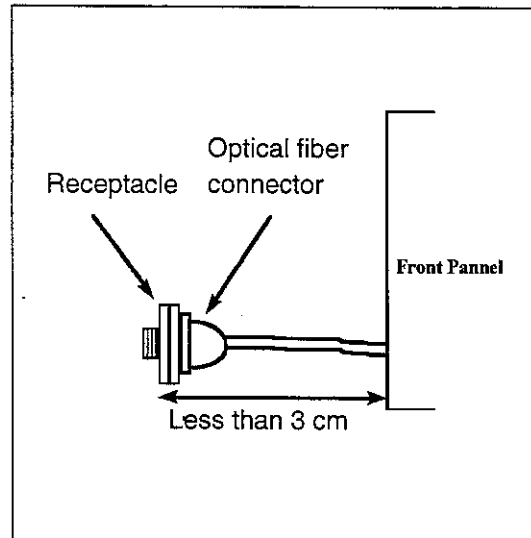

Figure 2-3 Connector Cleaning (2)
- (2) Gently pull out the receptacle approximately 3 cm. (Do not pull it forcibly, or the optical-fiber cable may be damaged.) (See Figure 2-3.)